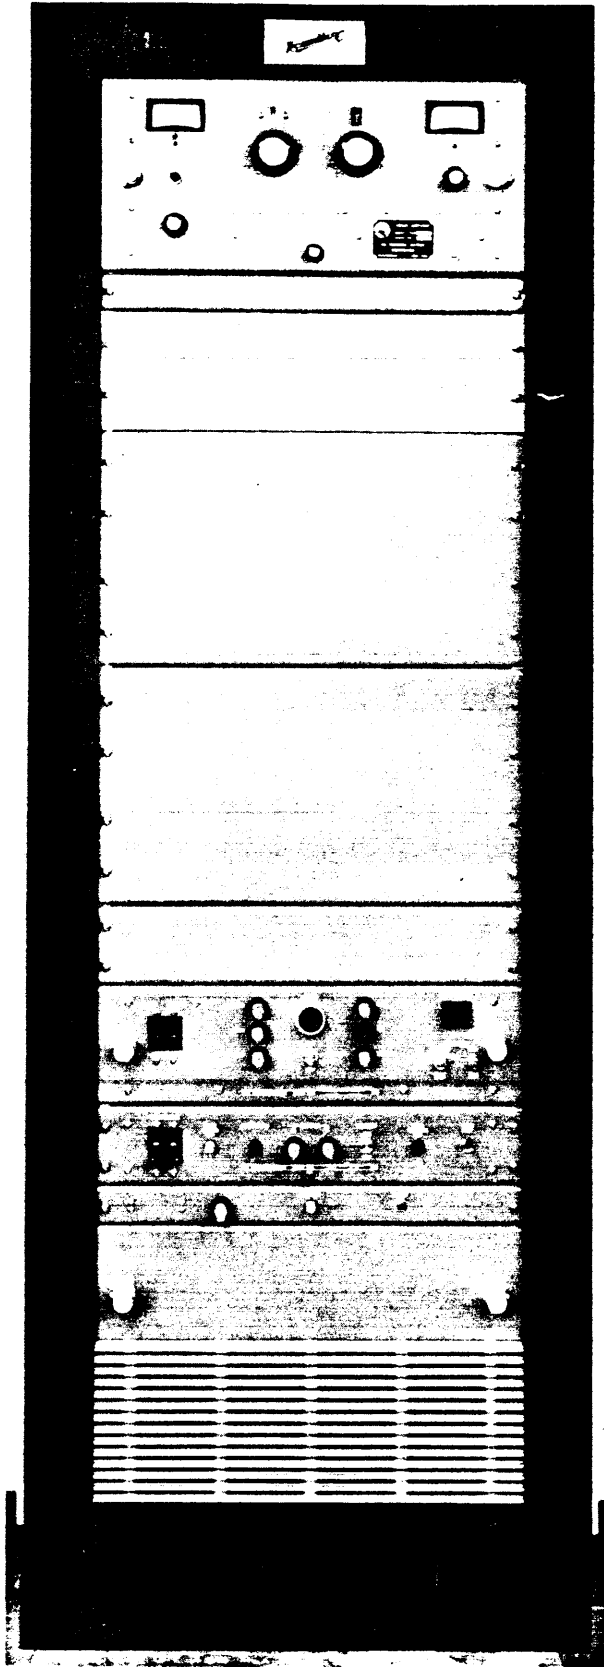

Figure 1-1. High Frequency Linear Power Amplifier HFLM-1K
The TMC Model HFLM-1K (figure 1-1) is a High Frequency Linear Power Amplifier and when used with a suitable exciter provides 1 Kilowatt (PEP) and average throughout the frequency range of 1.5 MHz to 30 MHz. This Linear Amplifier can be used as the prime source of H. F. communication, or part of an existing transmitting system. The lightweight small size of the HFLM-1K makes it readily adaptable for shipboard, aircraft and land installations.
Table 1-1 lists the major components of the HFLM-1K as they appear in figure 1-1.
a. GENERAL - As shown in figure 1-1, the HFLM-1K consists of a single equipment cabinet, housing all the components that make up the HFLM. Primary power and external input connections are made through either of two access holes in the bottom rear and side of the HFLM. RF power is routed through a directional coupler mounted in the RF Amplifier drawer to the output connector mounted in the opening located on the top of the equipment cabinet.